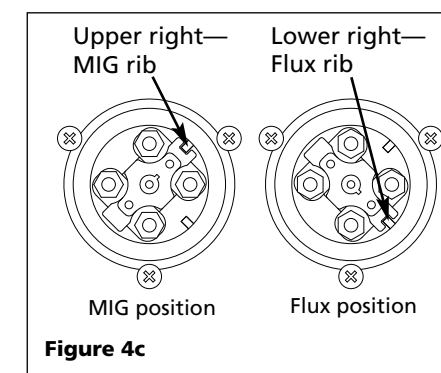

Figure 4c
- Pull out polarity bus bar and rotate it 90°. Reinsert aligning groove with the correct rib in polarity box. Upper right rib marks the MIG position; lower right rib marks the Flux position. (See Figure 4c.)